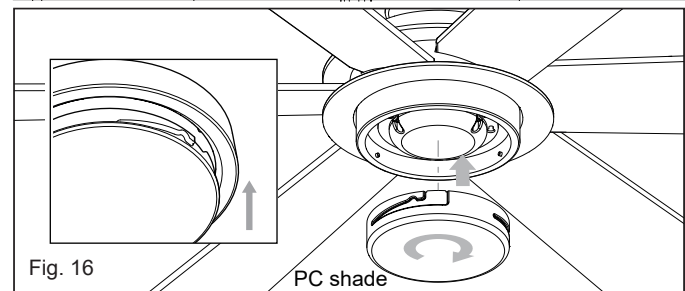

Fig. 16
- 3 Raise the PC shade against the LED assembly and turn counterclockwise until snug. (Fig. 16)